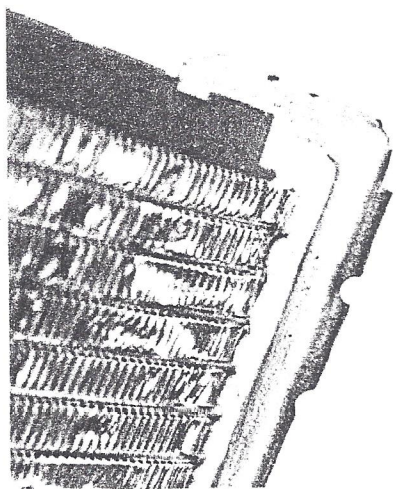

Figure 3
- "Paddle in" the Alumabond epoxy on the air side to replace the epoxy which was removed (see Figure 3). Work the epoxy into pinholes that are visible, building it up around the base of the tubes to a depth of about 1/4", then feather out the edges. (Note: If you are repairing a hole in a tube, it's a good practice to enlarge the hole slightly, using an ice pick, so that epoxy can be forced into the hole more effectively. Doing this, in combination with a good bond on the outside of the tube, provides the strongest epoxy seal. Some shops use a vacuum to pull epoxy into a hole, providing that the radiator can be repaired with its tanks in place).